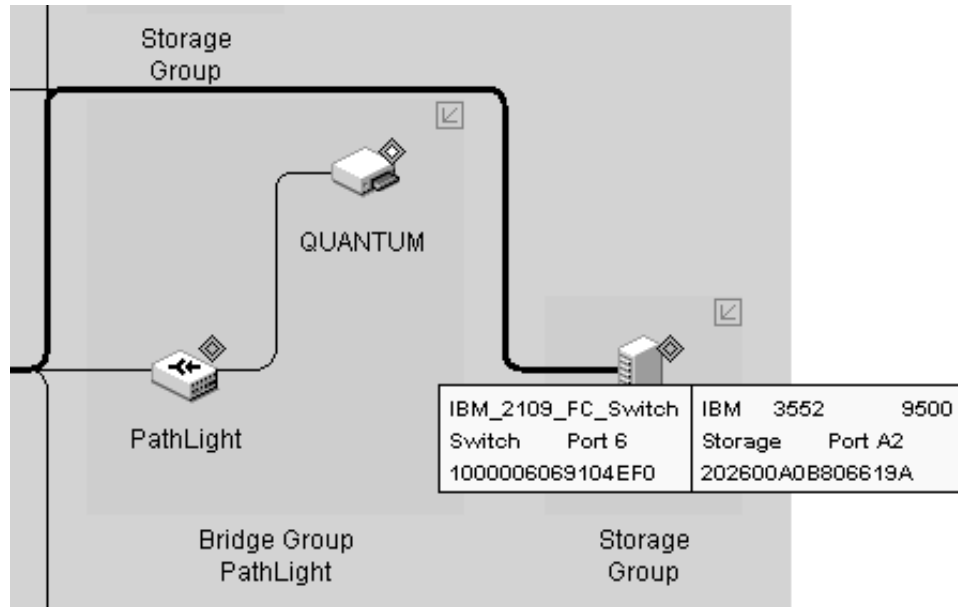

Figure 109. Device tip
- Determine the source and destination of a connection through the Device Tip. The Device Tip, shown in Figure 109 on page 265, pops up when you place the cursor over the selected connection.